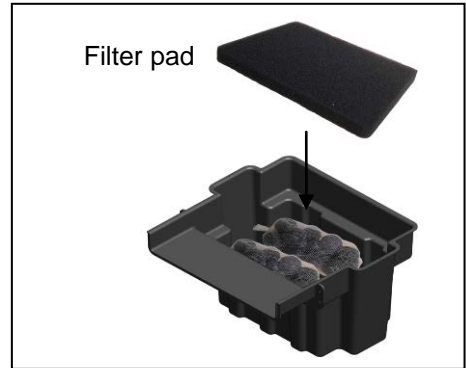

Fig. 12
12. Place the filter pad over bio media ball bags and tank. Fig. 12